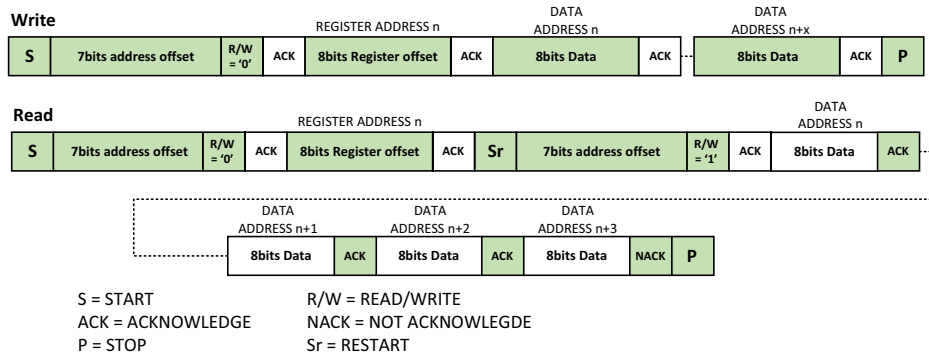

Figure 12: Read and write transmission
- If the master wants to end the transmission, it sends a NACK to notify the slave that the transmission is over, and then sends a stop bit (P). Both communications are described in the Figure 12. Refer to Table 9 for all register addresses.